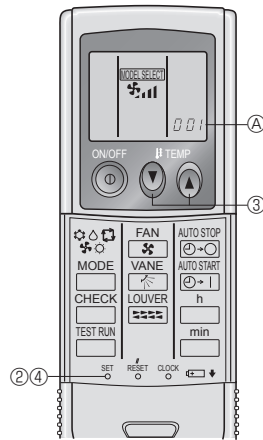

Fig. 6-3
3) Setting (Fig. 6-3)
① Insert batteries.
② Press the SET button with something sharp at the end.